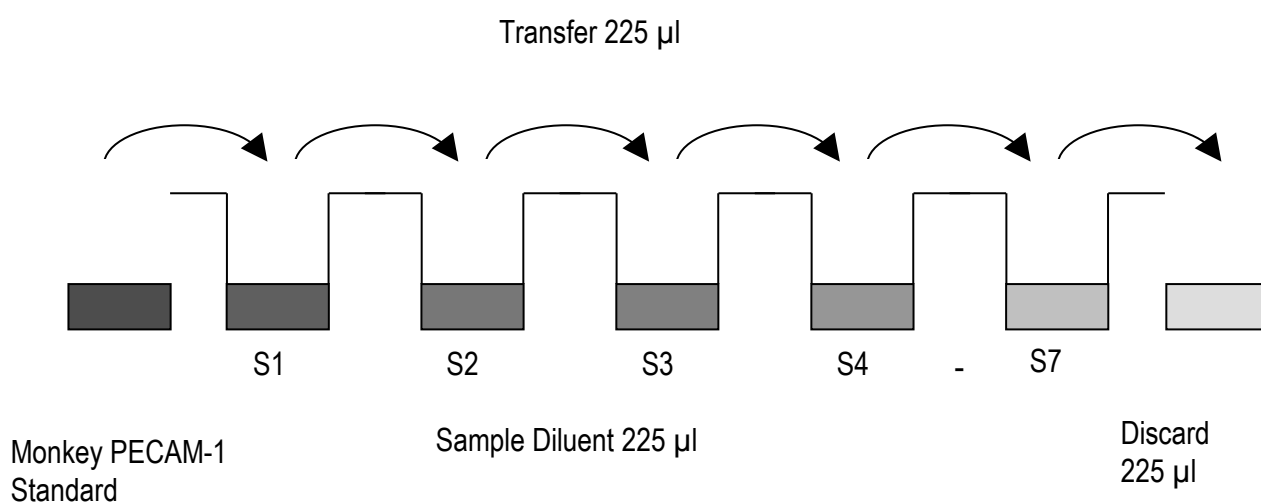
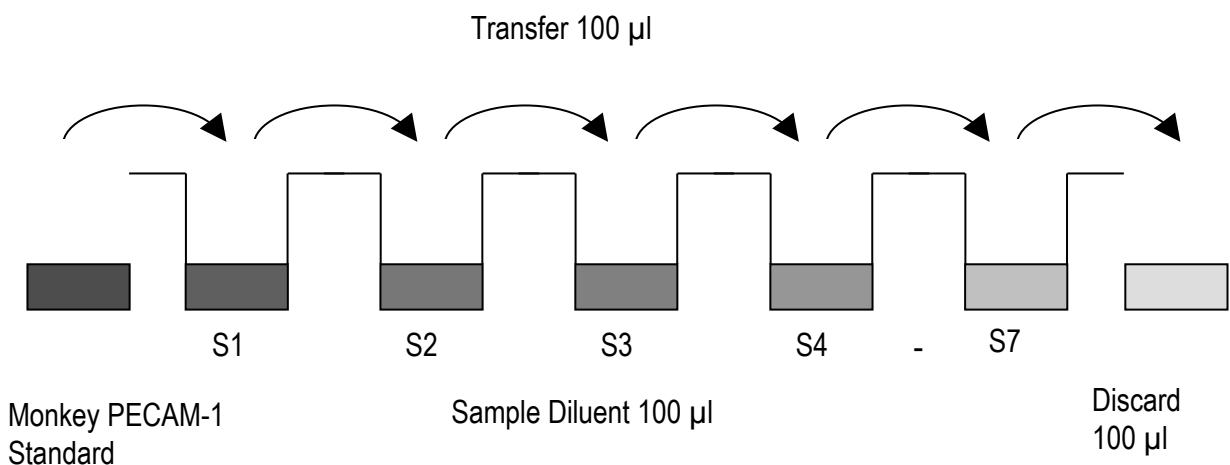

Figure 5 Dilute standards - tubes
Figure 6 Dilute standards - microwell plate
4. Repeat serial dilutions 5 more times thus creating the points of the standard curve (see Figure 5).
Add 100 µl of Sample Diluent in duplicate to all standard wells. Prepare standard dilutions by pipetting 100 µl of monkey PECAM-1 Standard, in duplicate, into well A1 and A2 (see Figure 5 and Figure 6). Mix the contents by repeated aspiration and ejection and transfer 100 µl to well B1 and B2, respectively. Take care not to scratch the inner surface of the microwells. Continue this procedure five times, creating two rows of monkey PECAM-1 standard dilutions ranging from 30.00 to 0.48 U/ml. Discard 100 µl of the contents from the last microwells (G1, G2) used.